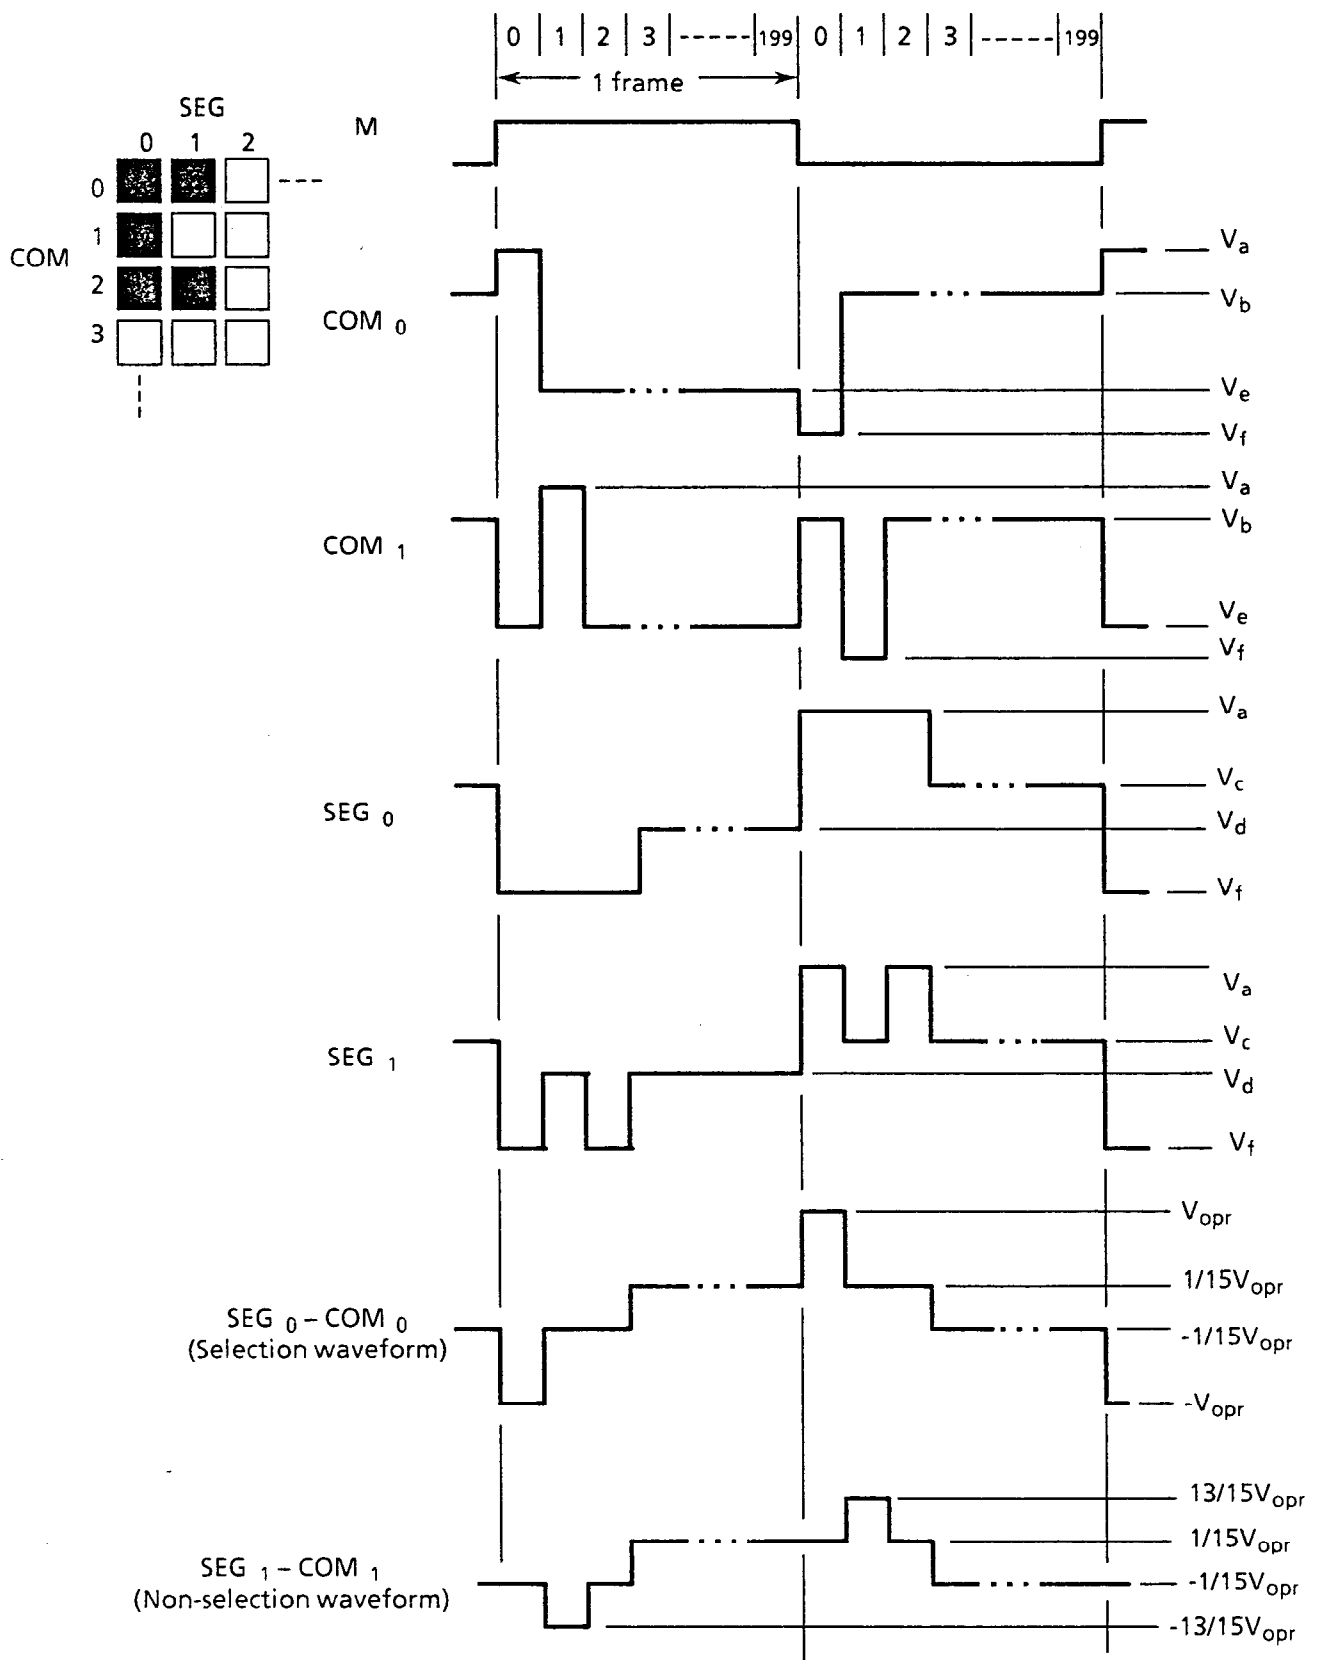

Figure 2 Drive waveform
The drive waveform of the LCD panel is shown in Figure 2 on the next page. Since DC voltage will damage the liquid crystal, an AC voltage is applied between the two frames. The signal controlling this is the liquid crystal AC drive control signal (M).
The G648D has a 1/200 duty cycle, and the common electrodes are selected within a frame by time division from electrode 1 to electrode 200. This is called line sequential scanning. The voltage level of the segment electrodes determines whether the dots at the intersection of the segment electrodes are selected or not, when the common electrode is selected. As shown in Table 1, there are six drive waveform voltage levels,  $V_a$  to  $V_f$ . The voltage level is determined by the bias value. The voltage between the segment and common electrodes is thus applied to the liquid crystal. The selection waveform for  $SEG_0-COM_0$  and the non-selection waveform for  $SEG_1-COM_1$  are shown in Figure 2. The size of the effective voltage of the waveform determines whether the liquid crystal under the selected dots is in the selection or non-selection state.